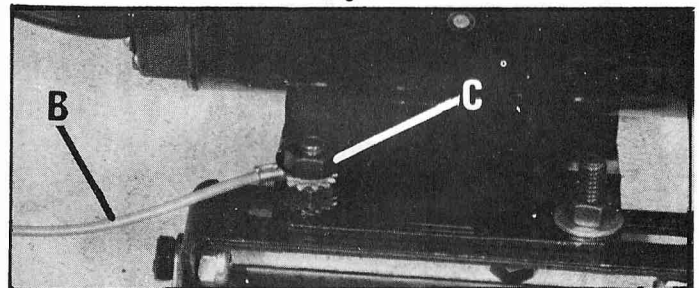

Fig. 10
2. Fasten ground wire (B) to carriage bolt using the 5/16-18 hex nut (C) as shown in Fig. 10.